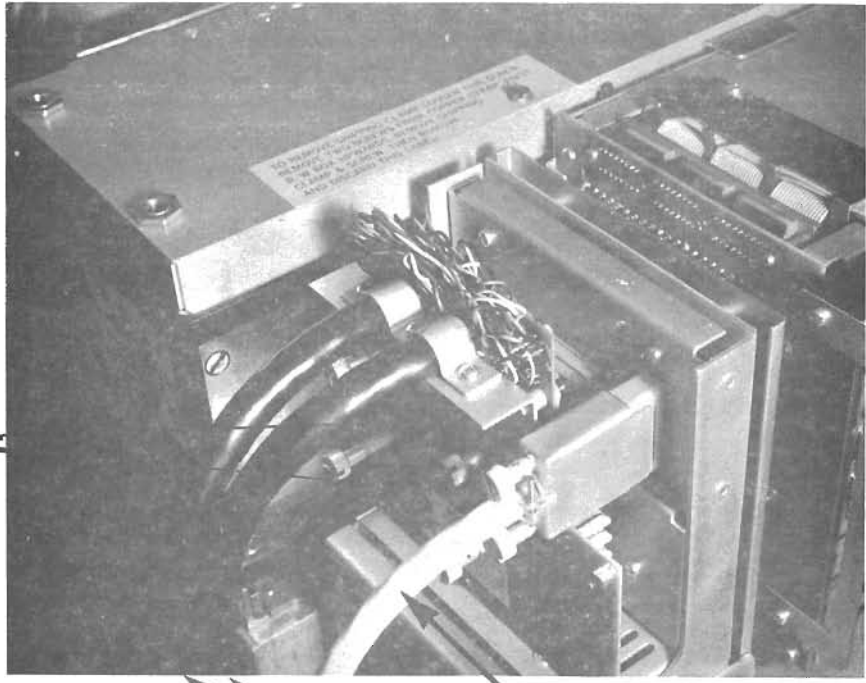
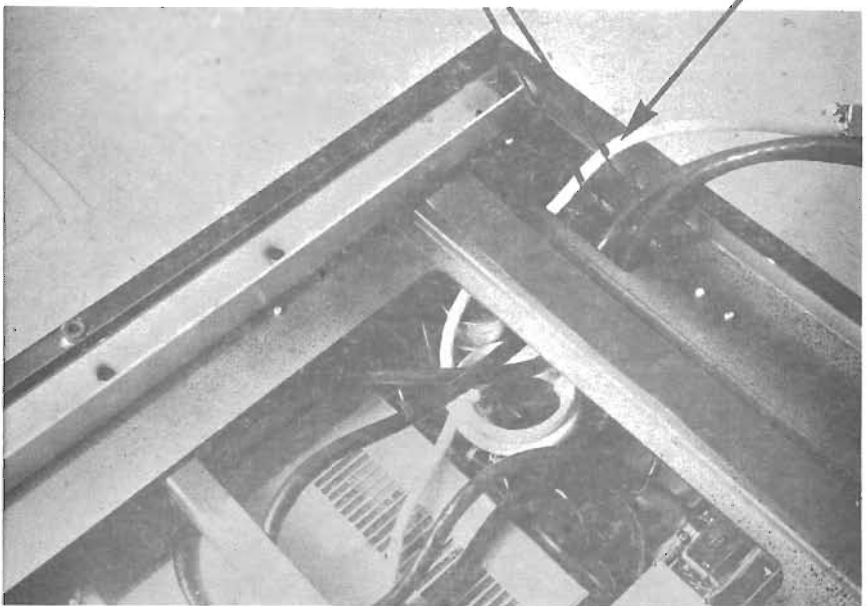

FIGURE 13
FIGURE 14
- 10) To install interfacing cables found in box #2, first connect the screw-in Winchester connector to the I/O box at the rear of the disk unit (See Figure 13).
- 11) Route the two Amphenol connectors down between the main frame slot, indicated in Figure 14. Connect Amphenol connectors to the controller 6295 PC board as shown in Figures 14 and 15.
- 12) Route the power supply cable up through the same path as the interface cables (Figure 14). Connect the power supply cable (light colored, screw-in type) to the rear of the disk unit as shown in Figure 13.